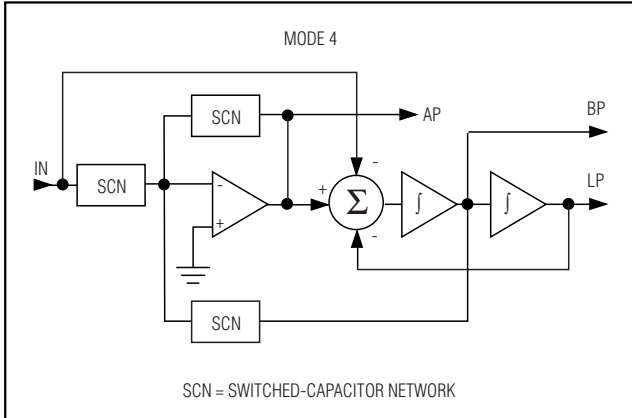

Figure 11. Filter Mode 4: Second-Order Bandpass, Lowpass, and Allpass
**MODE 4** (Figure 11) is the only mode that provides an allpass output. This is useful when implementing group delay equalization. In addition to this, mode 4 can also be used in all pole lowpass and bandpass filters. Along with mode 1, it is the fastest operating mode for the filter, although the gains are different than in mode 1. When the allpass function is used, note that some amplitude peaking occurs (approximately 0.3dB when  $Q = 8$ ) at  $f_0$ . Also note that  $f_0$  and  $Q$  sampling errors are highest in mode 4 (see Figure 20).